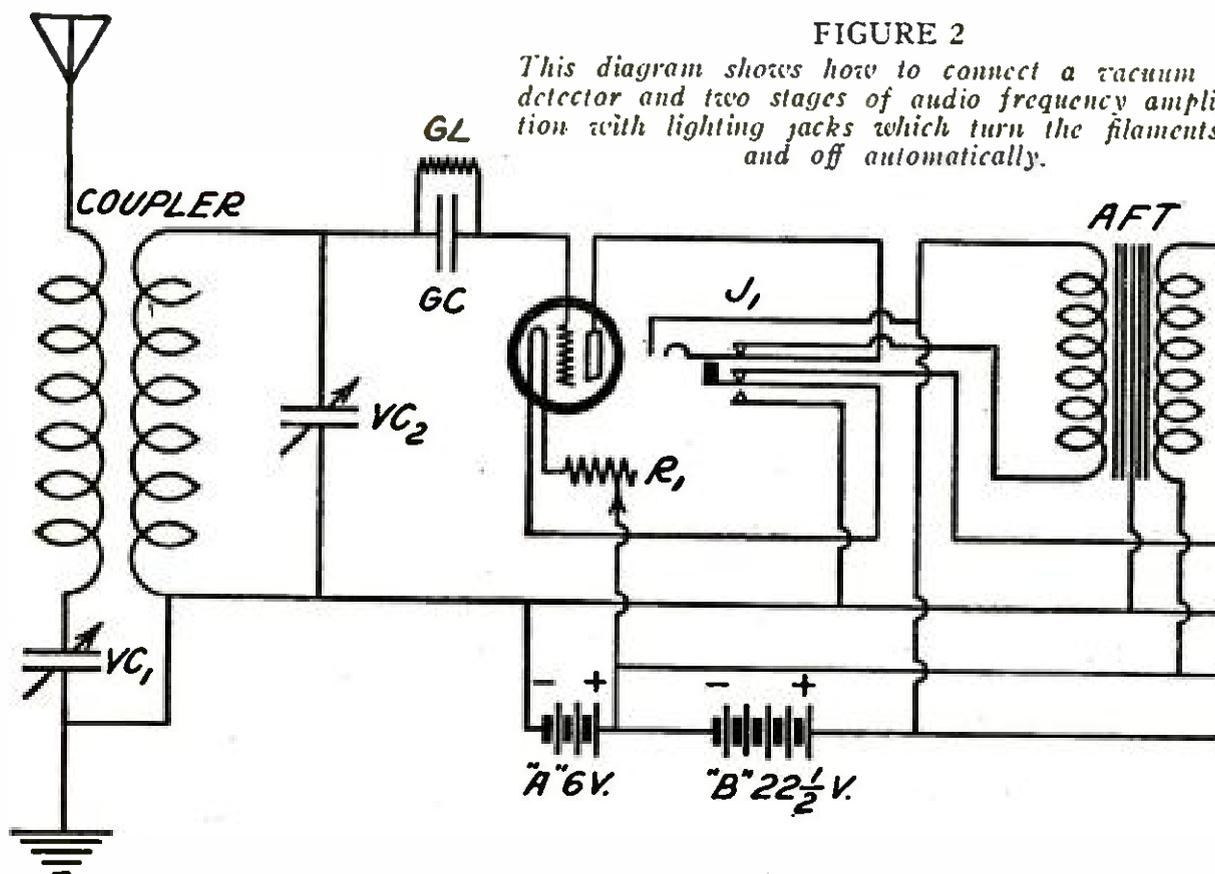

FIGURE 2
- 2—Ground all the iron cores of these transformers. See diagram on this page (Figure 2).